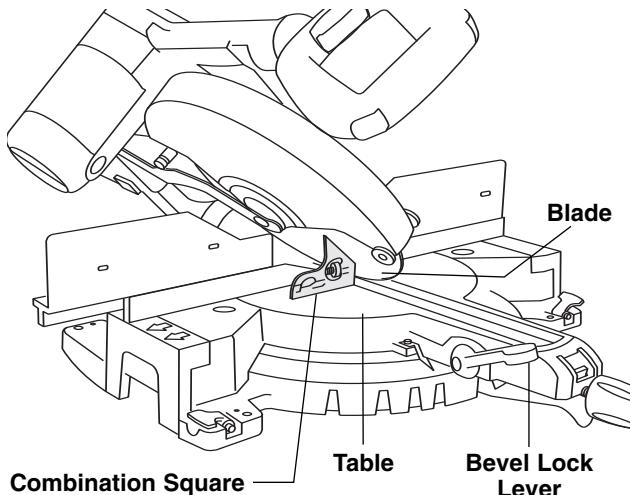

Figure 1. Left 45° Bevel Stop
4. Remove the ruler from the combination square and position with 45° surface against blade. (Figure 1)